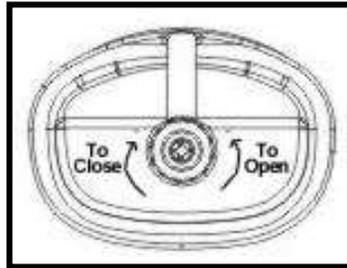

Fig. 8
2. To open the cap on the water bottle, turn counterclockwise. Fill the water bottle with tap water or distilled/purified water if your tap water in your area is very hard. (See fig. 8)
3. After filling the water bottle, close the cap clockwise. (See fig. 8)